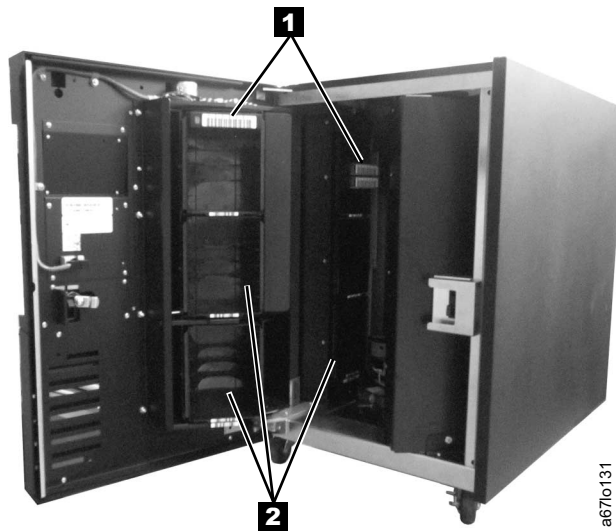

Figure 19. Removing cartridges and magazines
3. Remove all of the cartridges **1** and magazines **2** from the storage columns within the library (see Figure 19).